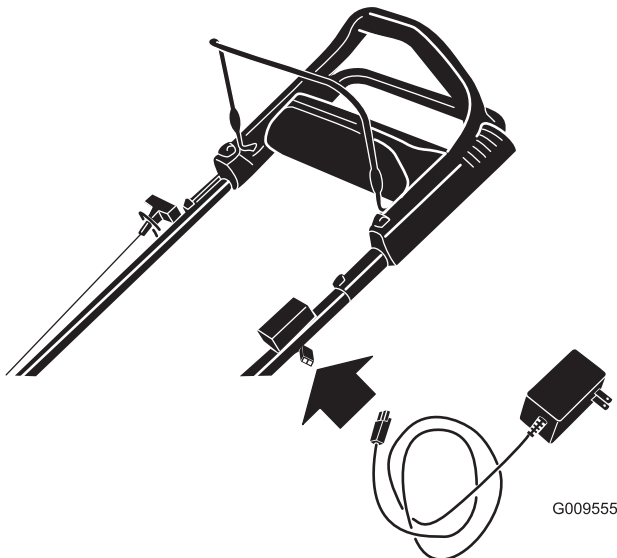

Figure 34
1. Connect the charger to the machine wiring harness located below the electric-start button (Figure 34).